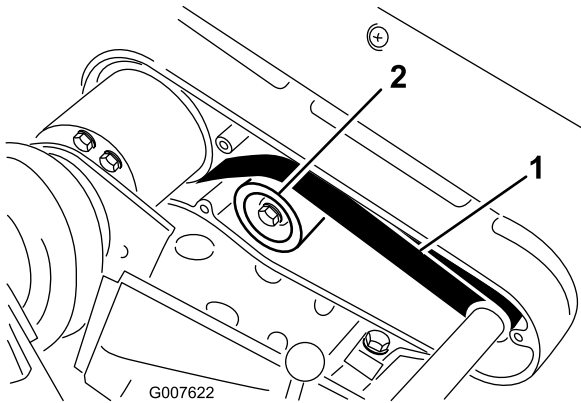

Figure 32
2. Check the tension by pressing the belt at mid span of the pulleys (Figure 32) with 5 to 6 lb of force. The belt should deflect 1/4 inch.
- A. Loosen the idler pulley mounting nut and pivot the idler pulley clockwise against the backside of the belt until the desired belt tension is attained (Figure 32).